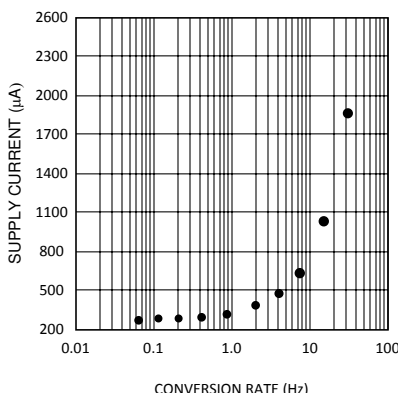

Figure 6-1. Supply Current vs Conversion Rate
The LM64 takes approximately 31.25 ms to convert the Local Temperature (LT), Remote Temperature (RT), and to update all of its registers. The Conversion Rate may be modified using the Conversion Rate Register. When the conversion rate is modified a delay is inserted between conversions, the actual conversion time remains at 31.25 ms. Different Conversion Rates will cause the LM64 to draw different amounts of supply current as shown in Figure 6-1.